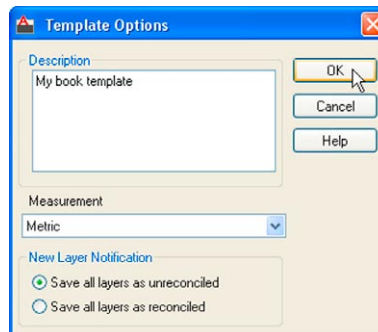

Fig. 4.22 The **Template Description** dialog
- The **Template Option** dialog appears. Make *entries* as suggested in Fig. 4.22, making sure that **Metric** is chosen from the popup list. The